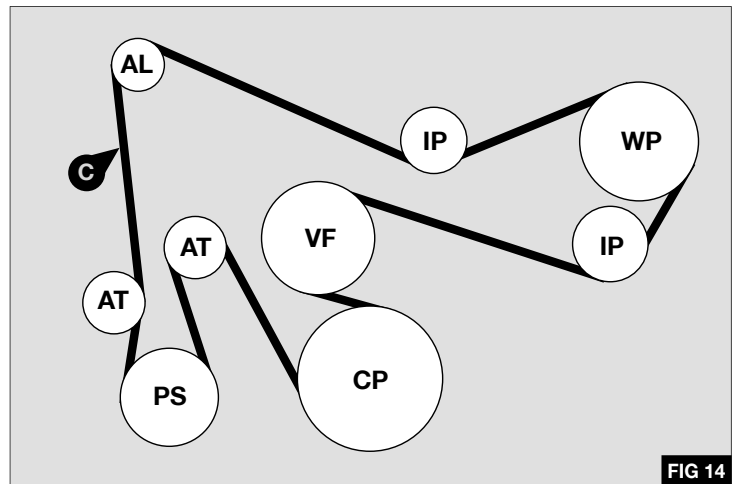

FIG 14
2. Using a suitable tool rotate the automatic belt tensioner (A) to release the tension and lock with a pin at point (B) remove the original manufacturer's drive belt (C) taking care to check the direction of rotation and noting the original routing, if different from the diagram shown in Fig.14 report your findings to your Kit/System supplier before proceeding - Fig 1
1. Refit the original manufacturer's drive belt (C) previously removed to the engine in the same configuration and in accordance with the original manufacturer's design detailed in - Fig 14